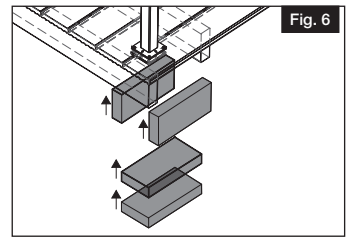

Fig. 6
- b. Beneath all post locations install at least two 2"x8" blocks using at least three #10x3 1/2" deck screws penetrating through the joists at least 1 1/2" into the blocks (sold separately) (Fig. 6 & 7).